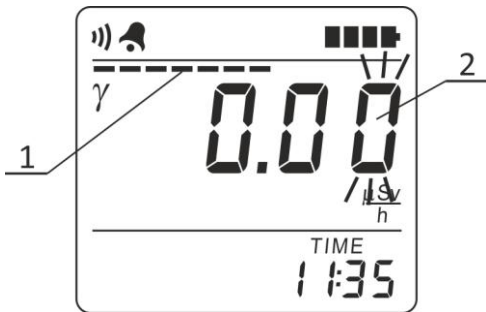

Figure 2.5 – LCD of the radiometer
2.3.3.6.22 If you keep holding down THRESHOLD button, then during the next four seconds the radiometer proceeds to the submode of viewing and programming of new values of the alarm threshold level and specified limit of statistical deviations (Figure 2.5). A stripe (1) “moving” across the instantaneous value indicator and a blinking low-order digit (2) of a new threshold level serve as an indication of this submode. After that release THRESHOLD button.